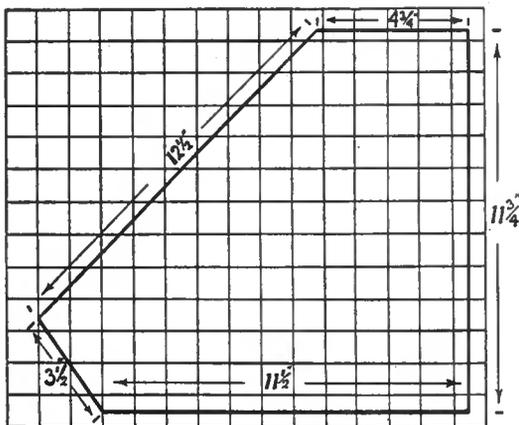
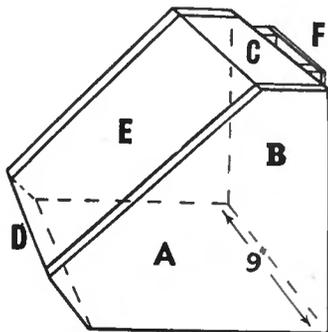

Fig. 2—Side piece. Each square equals 1in.
Fig. 3—Sections.
Use  $\frac{3}{4}$ in. wood and  $1\frac{1}{4}$ in. nails throughout. Cut the two sides according to Fig. 2. Nail a piece 9ins. by  $10\frac{1}{2}$ ins. at the bottom (Fig. 3, A), between the two sides. Then fix the back portion, 9ins. by  $10\frac{1}{2}$ ins. (B), which should rest on the bottom piece (A).
The holder for the small shovel is at the back (F). Make it as in Fig. 3, and attach it to the scuttle with  $1\frac{1}{4}$ in. screws. Use 1in.